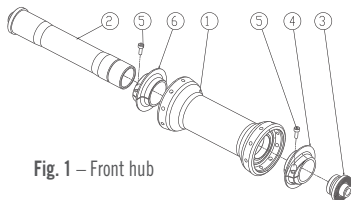

Fig. 1 – Front hub
2. **Front hub:** unscrew the axle end cap (3) using a 5mm Allen wrench and the Threaded Preload Collar (4) using a 2.5mm Allen wrench; and remove the axle end cap by hand (Fig.1)
3. Remove the Threaded Preload Collar (4) and the front axle (2)
4. Slide the new spoke in the flange hub hole and re-mount the hub internals following the sequence shown in Fig.1